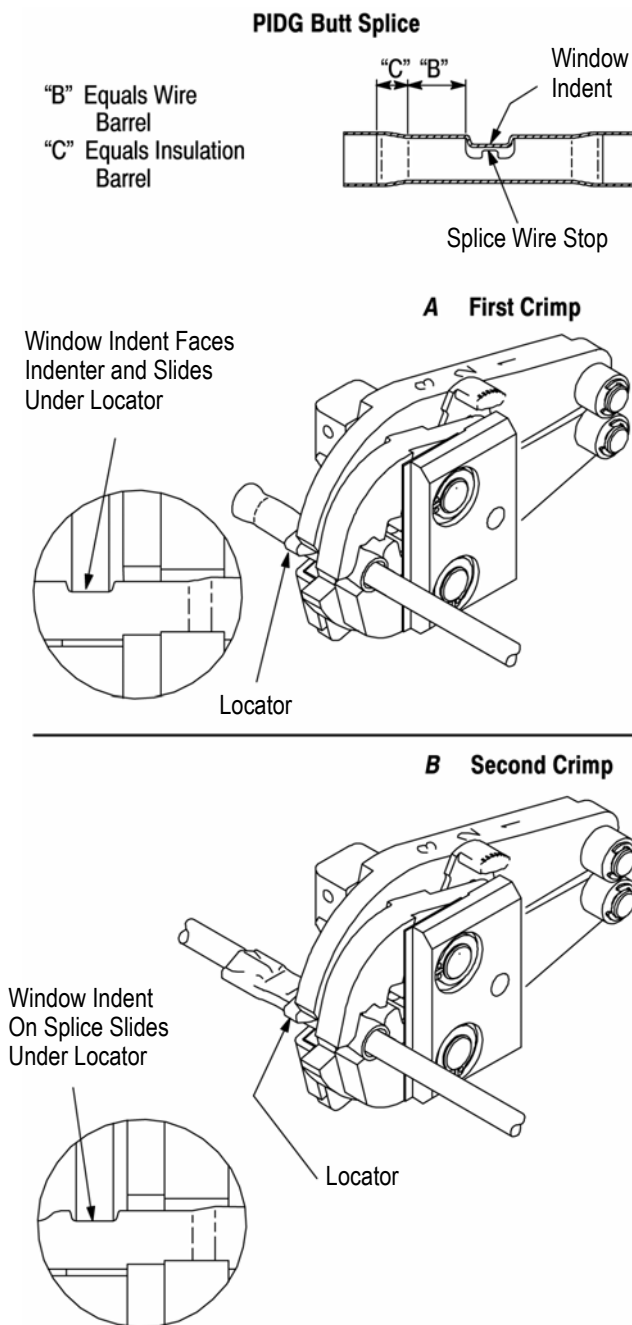

Figure 4
2. Open crimping jaws by squeezing rollers together simultaneously. Position splice between crimping jaws so that the window indent slides under the locator of crimp head. See Figure 4, A.
4. Insert stripped wire into wire barrel of splice until the end of the conductor is against the splice wire stop. See Figure 4, A.
6. To crimp the other half of the butt splice, reposition it in the crimping jaws and repeat Steps 1 through 5. If the splice cannot be turned, rotate crimping head. See Figure 4, B.